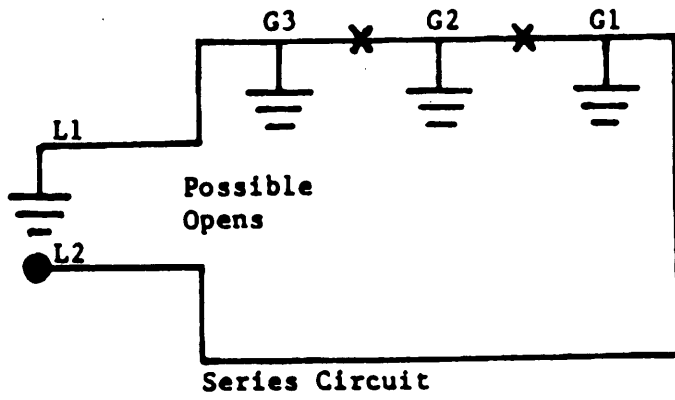

Figure 3-4. Open Circuit With One Leg, Test Example.
7. Where the opens are only between L1 and Gm, ground L1 and move ground Gm toward L1 along the circuit to locations (light stations) G1, G2, or G3. Ground one location at a time. (See figure 3-4.)